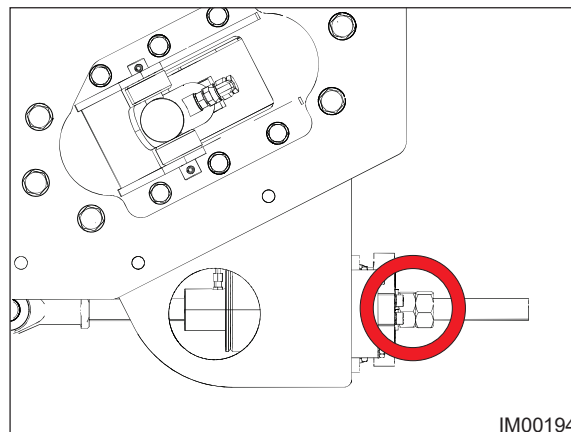

Fig: 7.15 - Lock Nut
14. Once the desired size has been achieved, lock the compression plate nut, then tighten the locking nut (Fig: 7.15). Ensure the spring compression plate is flush with the compression housing.